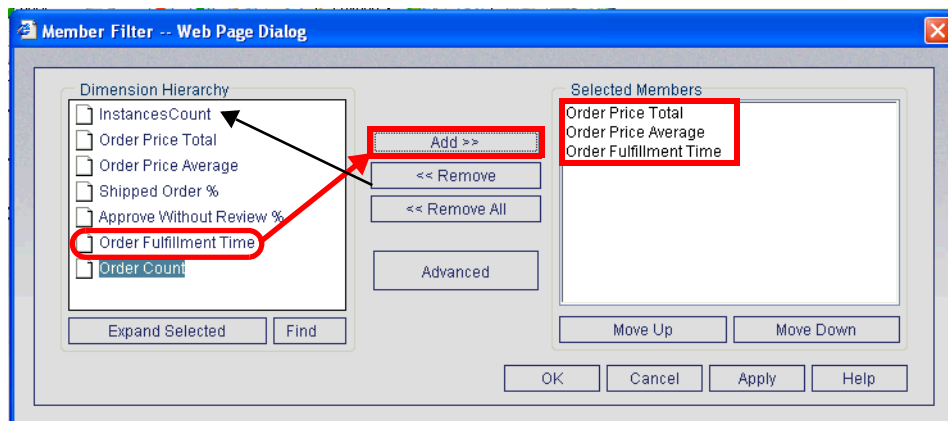

Figure 14-82 Selecting measures for dimensional analysis
- ▶ Select the measures to be displayed, and remove the instances count (Figure 14-82).